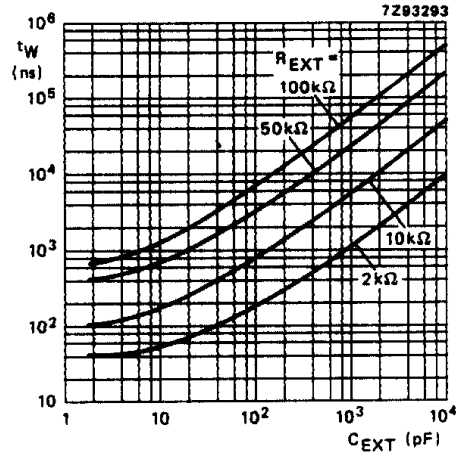

Fig.9 Typical output pulse width as a function of the external capacitor values at  $V_{CC} = 5.0\text{ V}$  and  $T_{amb} = 25\text{ }^\circ\text{C}$ .
- For other  $R_{EXT}$  and  $C_{EXT}$  combinations see Fig.9.